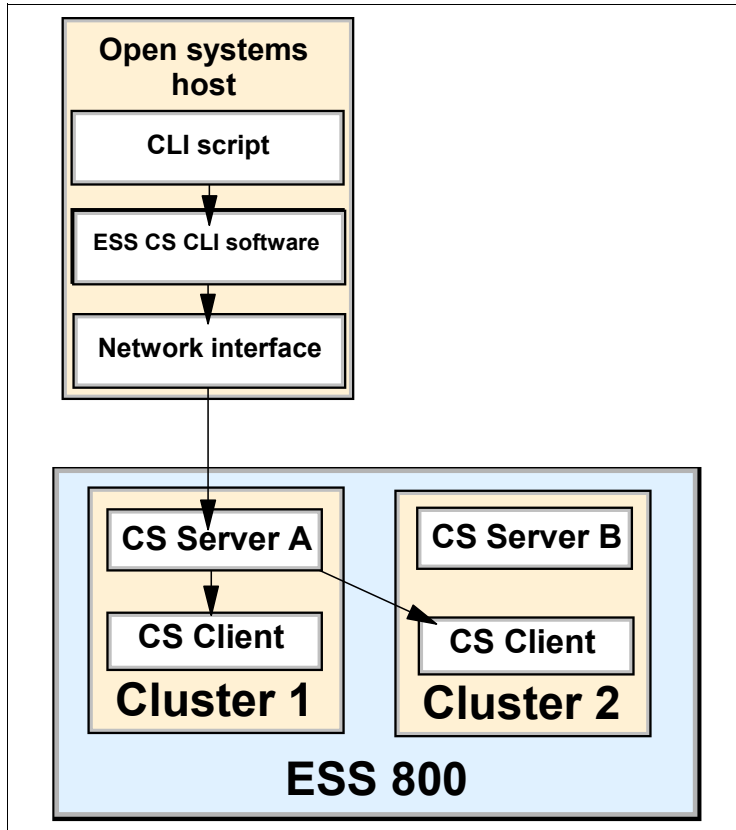

Figure 11-1 Command flow for ESS 800 Copy Services commands
Figure 11-1 on page 235 shows the flow of commands from host to server. When the Copy Services (CS) server receives a command, it determines whether the volumes involved are owned by cluster 1 or cluster 2. This is based on LSS membership (even numbered LSSs belong to cluster 1, odd numbered LSSs belong to cluster 2). The CS server issues the command to the client software on the correct cluster and then reports success or failure back to the CLI software on the open systems host.